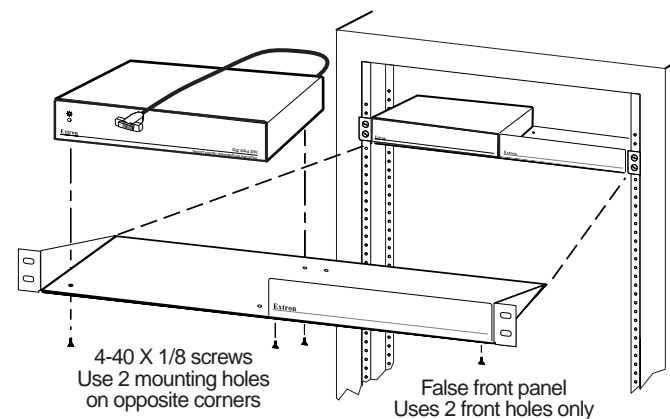

Figure 1 — Rack mounting the D/2 DA4
2. For optional rack mounting, mount the D/2 DA4 DVI on the left or right side of a 19" 1U Universal Rack Shelf (Extron part #60-190-01) (figure 1).